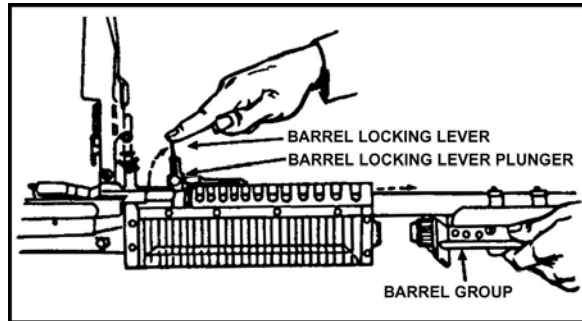

Figure 11. Barrel locking lever.
- a. Push in on the barrel locking lever plunger (Figure 11).